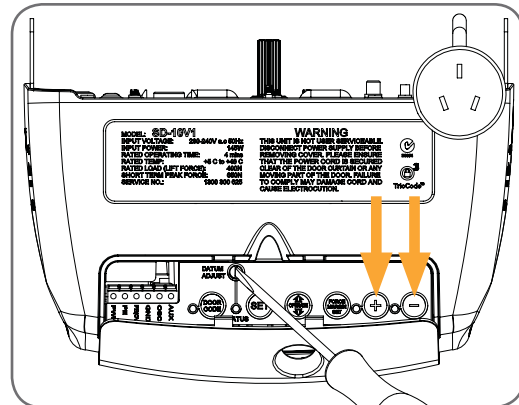

fig 18
- Using a small screwdriver, turn the DATUM ADJUST screw until the STATUS LED comes on (**Fig 18**).